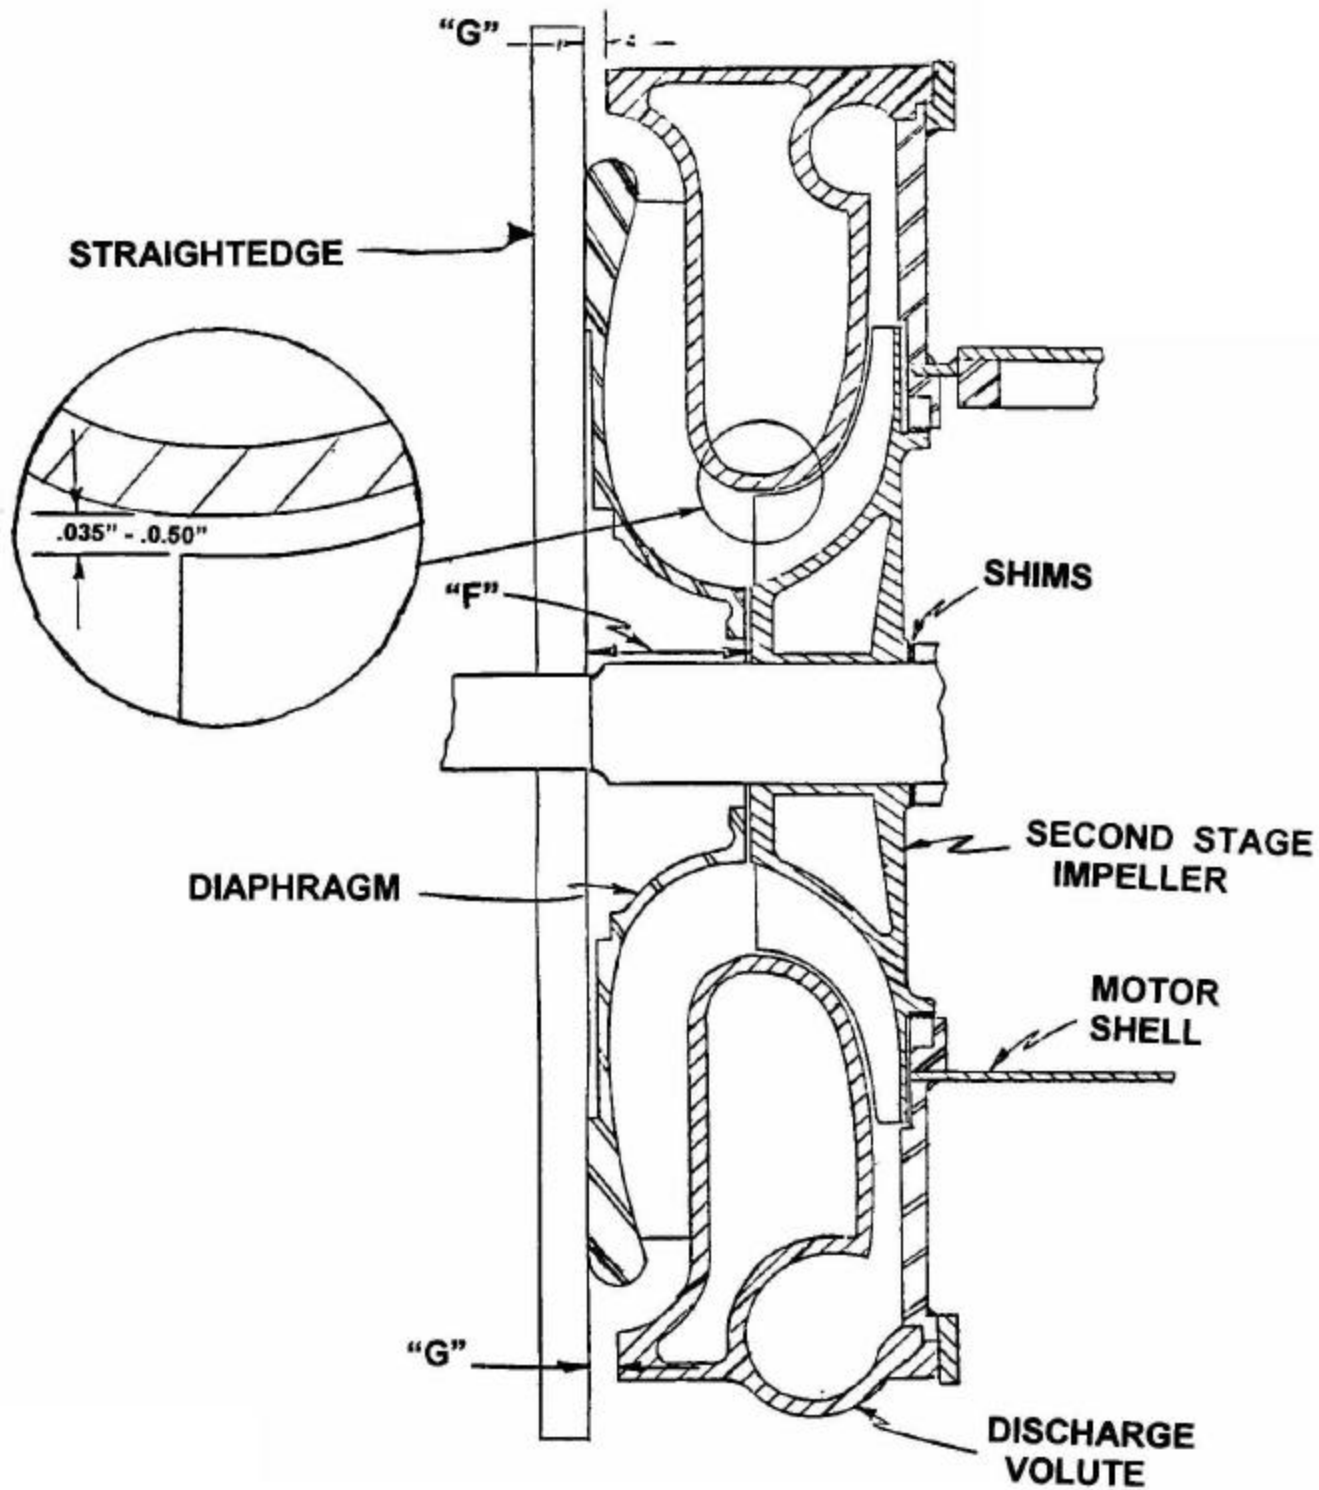

FIGURE 4
- u) With a long thickness gauge check clearance of each blade to inlet ring. Should be 0.035" to 0.050". (See Figure 4 for location of this dimension.)
- g) Place straightedge against diaphragm as shown in figure 4.